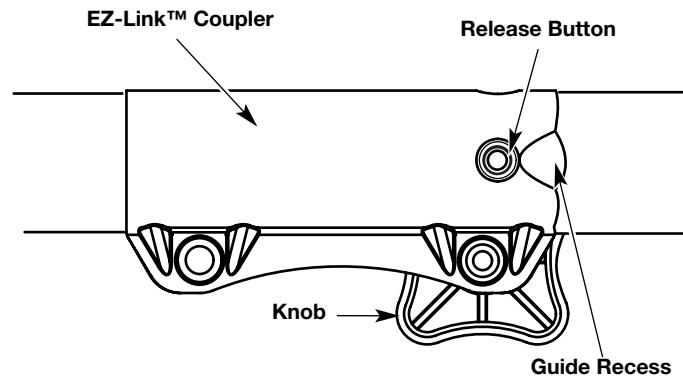

Fig. 23
1. Turn the knob counterclockwise to loosen (Fig. 23).
2. Press and hold the release button (Fig. 23).
1. Turn knob counterclockwise to loosen (Fig. 23).
NOTE: Aligning the release button with the guide recess will help installation (Fig. 23).